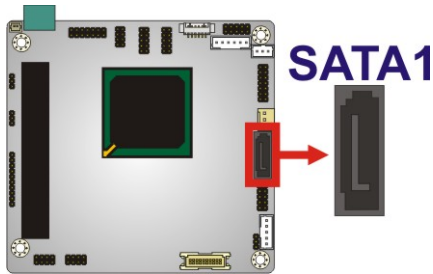

Figure 3-15: SATA Drive Connector Location
- CN Location:** See **Figure 3-15**